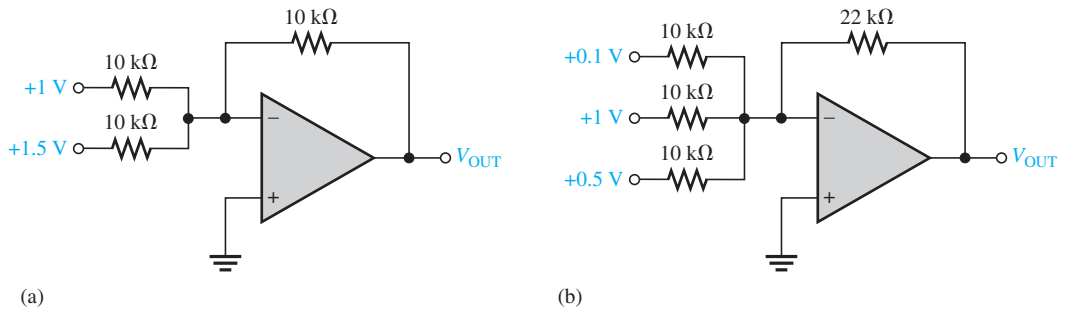

FIGURE 8-49
9. Determine the output voltage for each circuit in Figure 8-49.